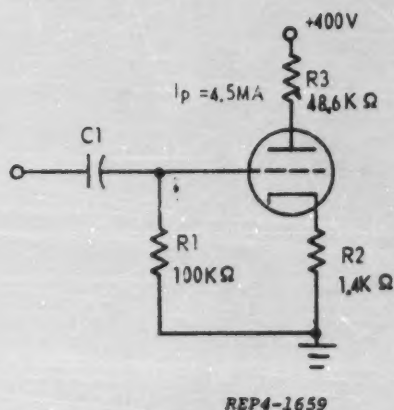

Figure 9
Use figure 9 for questions 10 through 12.
12. In figure 9, the direction of current flow is: